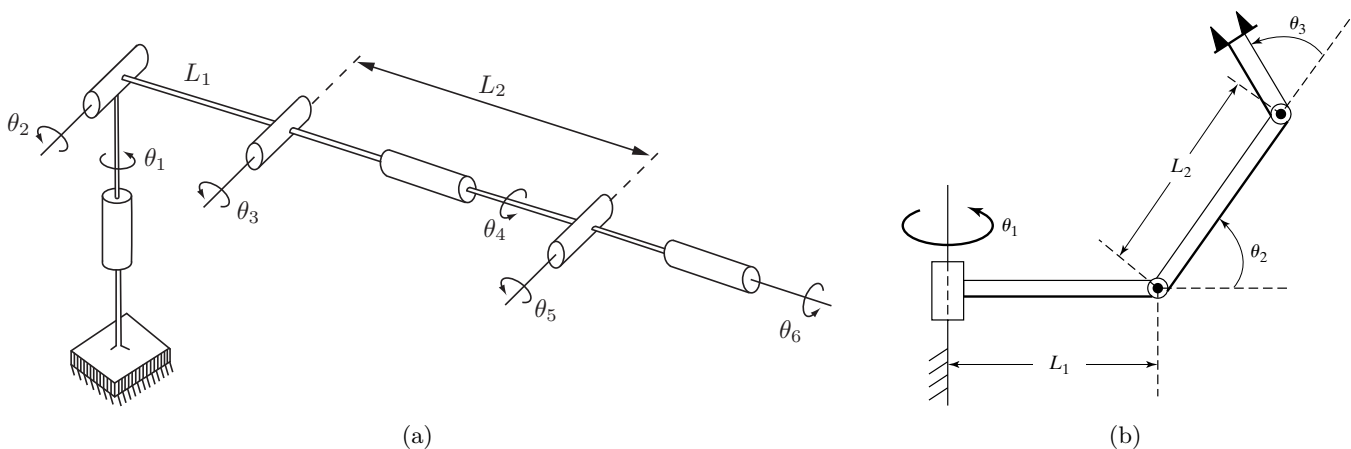

Figure 3: (a) A 6R spatial robot at its home configuration, (b) A 3R spatial robot at its home configuration.
3. Figure 3 shows a spatial 6R robot arm and a spatial 3R robot arm at their home configurations. The 6R robot arm has six rotational joints; the first three joints function as a Cartesian positioning device, while the last three joints act as a ZYZ Euler angle-type wrist. Properly assign link frames to the robot arms and find the corresponding Denavit–Hartenberg parameters.